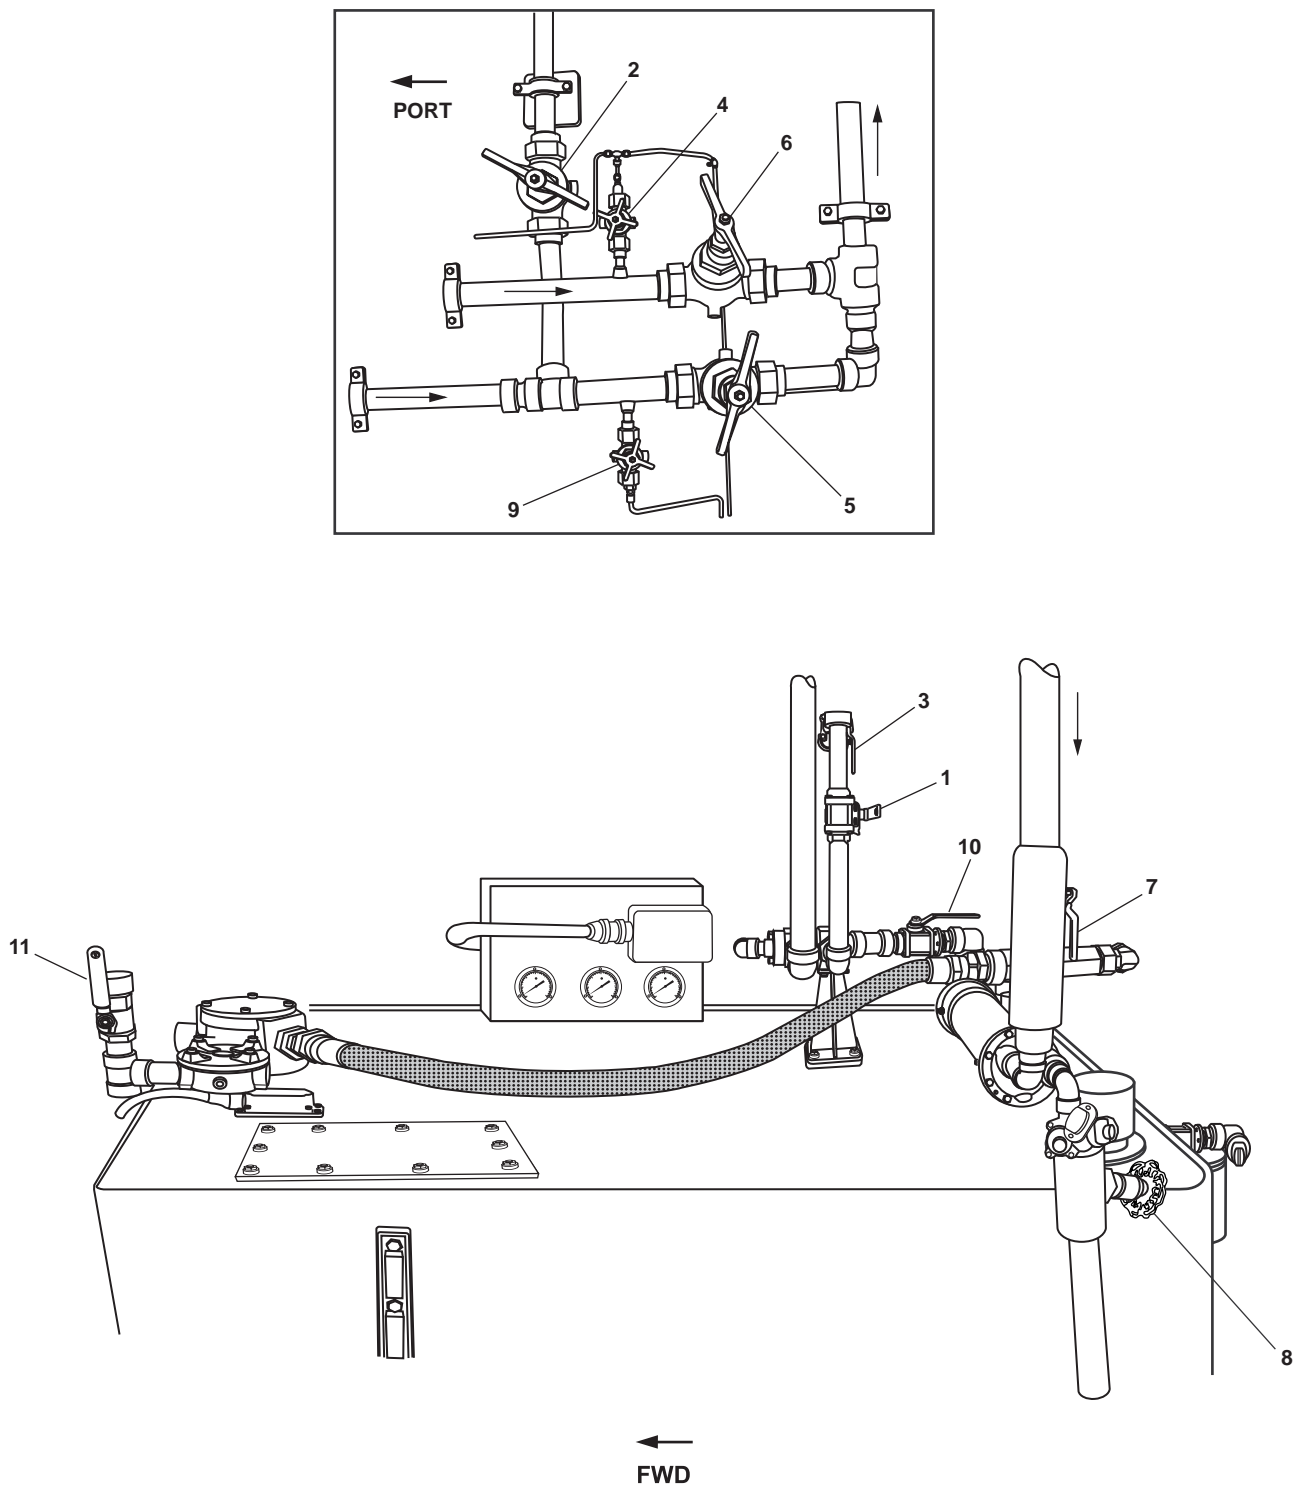

Figure 1. Towing Machine Hydraulic Power Unit
- a. TH-2, PRESS CRSVR CTL HYDR TOW WN HYDR (figure 1, item 2)
- b. TH-3, RETURN CRSVR. TO CENT. HYD (figure 1, item 1)
- c. TH-4, DRAIN CRSVR. TO CENT. HYD. (figure 1, item 3)